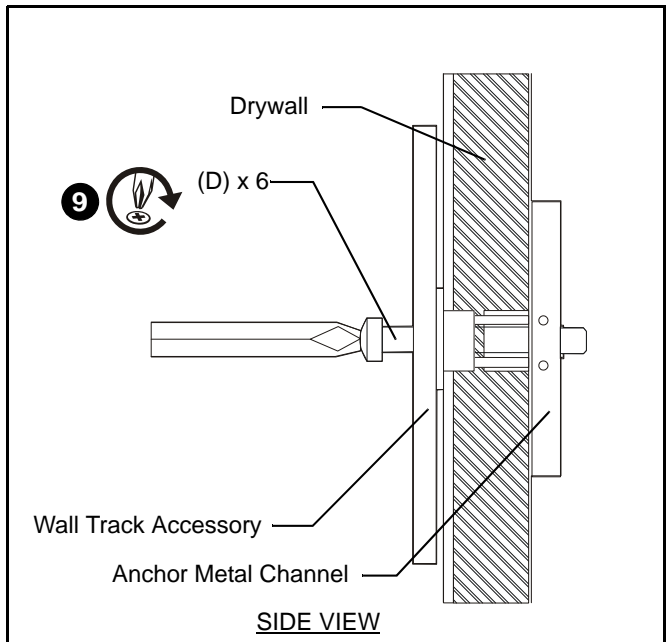

Figure 7
9. Insert 1/4-20 x 1 3/4" Phillips pan head screws (D) through corresponding mounting hole on wall track accessory and into anchor (C) and tighten until flush against mount. DO NOT overtighten! (See Figure 7)